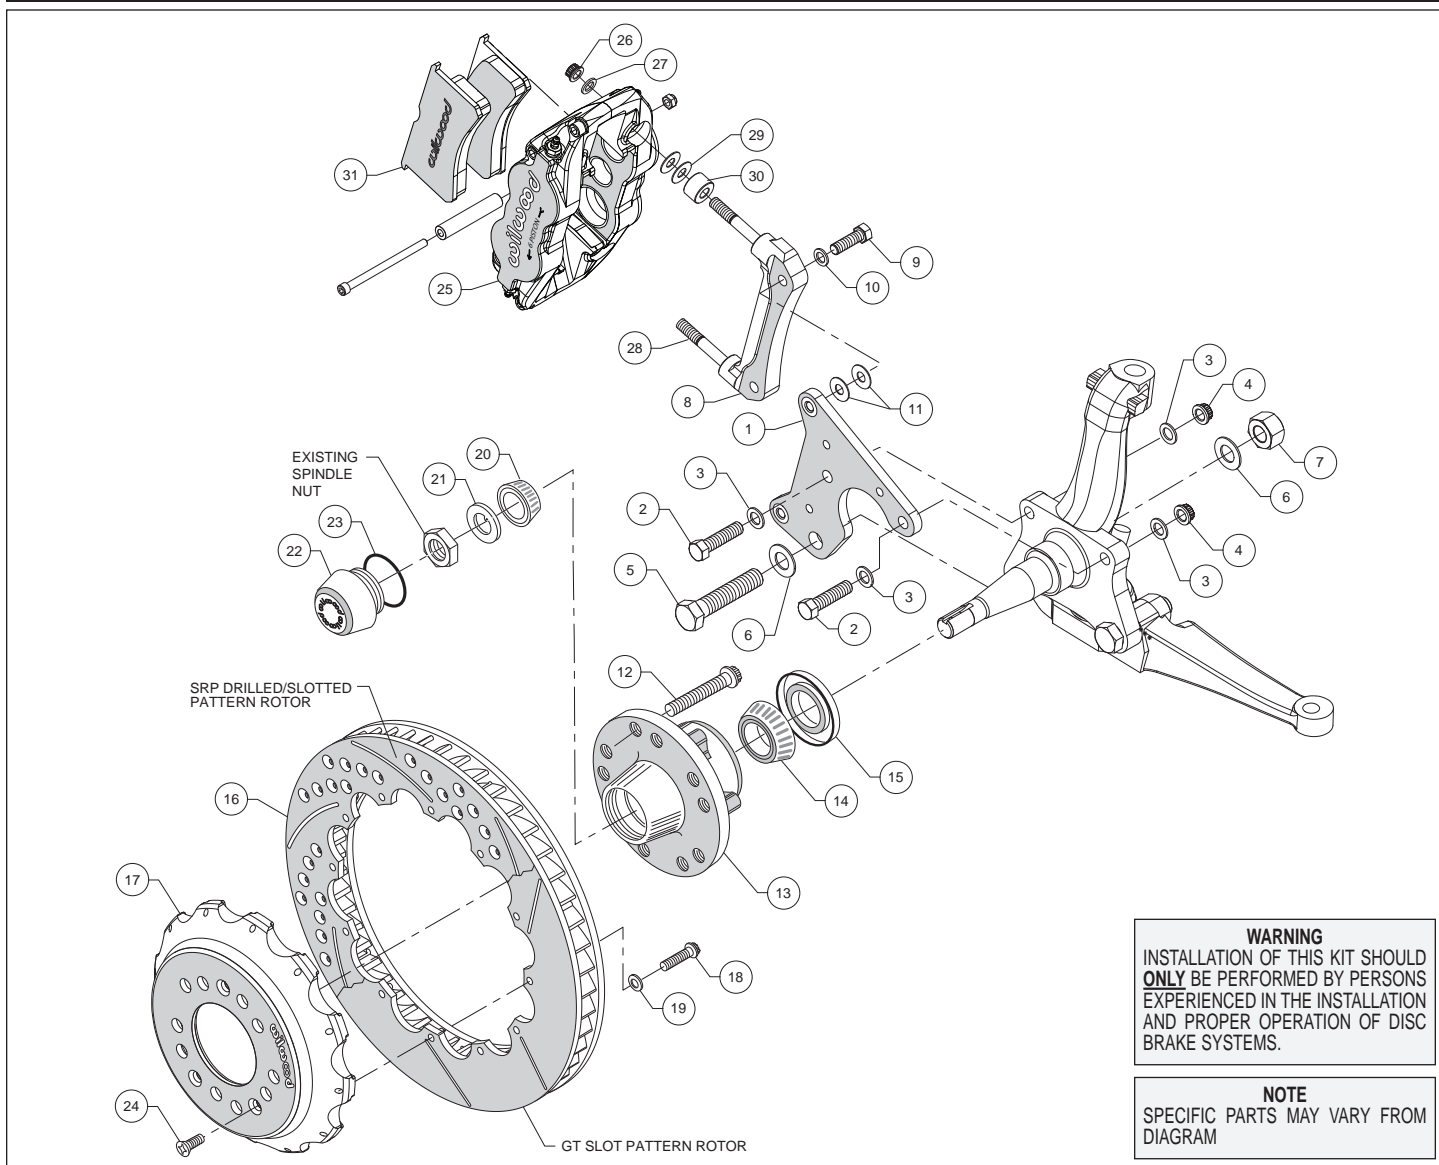
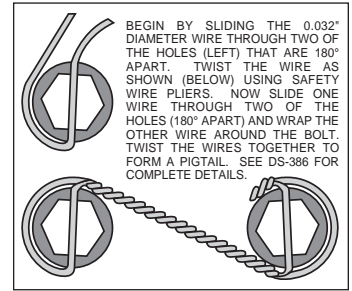

Figure 1. Typical Installation Configuration
Figure 3. Safety Wire Diagram
**Assembly Instructions** (numbers in parenthesis refer to the parts list and Figure 1 on the preceding pages): **CAUTION:** All mounting bolts must fully engage clinch nuts. Be sure to check that all bolts are protruding through flanged side of clinch nut after shimming.
- Orient the spindle bracket (1) as shown in Figure 1 and Photo 1, and install using bolts (2), washers (3), and nuts (4) on the top holes and bolt (5), washers (6), and nut (7) on the bottom hole, Figure 1 and Photo 1. Temporarily tighten the mounting bolts. Ensure that the flanged heads of the clinch nuts in the bracket are facing outboard, Photo 1. **NOTE:** The bracket must fit squarely against the mounting points on the spindle. Inspect for interference from casting irregularities, machining ridges, burrs, etc. Remove nuts one at a time, apply red *Loctite*® 271 to bolt threads and torque nuts (4) to 47 ft-lbs. and nut (7) to 140 ft-lbs.
- The caliper mount radial bracket (8) should initially be installed with clean, dry threads on the mounting bolts. Orient the bracket as shown in Figure 1, and Photo 2. Install onto the spindle bracket using bolts (9), and washers (10). Initially place two .035 thick shims (11) on each bolt between the radial and spindle brackets, Figure 1. Temporarily tighten the mounting bolts. Later, after the caliper alignment has been checked, the mount bolts will be secured using red *Loctite*® 271.
- Install wheel studs (12) into the hub (13), Photo 3. Torque to 77 ft-lb. **NOTE:** There are two five lug patterns in the hub (5 x 4.50 and 5 x 4.75). Ensure the correct hub stud pattern is being used to fit the wheel application.
- Pack the large inner bearing cone (14) with high temperature disc brake bearing grease (available from your local auto parts store) and install into the backside of the hub (13), Photo 4.
- Install the grease seal (15) by pressing into the backside of the hub (13), flush with the end of the hub, Photo 4.
- Orient the rotor (16) and the hat (17) as shown in Figure 1 and Photo 5. Attach rotor to hat using bolts (18) and washers (19). Using an alternating sequence, apply red *Loctite*® 271 to the threads, and torque to 155 in-lbs. For an added measure of security, the bolts may be safety wired using standard 0.032 inch diameter stainless steel safety wire as shown in Figure 3. Refer to Wilwood's data sheet DS-386 for complete safety wire installation instructions.
- NOTE:** This kit contains distinct right and left hand calipers that must be mounted in a specific direction, as described below. Lubricate the caliper mounting studs (28) with lightweight oil. Initially place one spacer (30), and two .035" thick shims (29) on each stud between the caliper and the bracket, as shown in Figure 1 and Photo 8. Mount the caliper (25) onto the bracket (8) using lock nuts (26) and washers (27), Figure 1. Ensure that the caliper is mounted so the largest pistons are at the rotor exit end of the caliper, in relation to the direction of rotor rotation. Temporarily tighten the lock nuts and view the rotor through the top opening of the caliper. The rotor should be centered in the caliper, Photo 9. If not, adjust by adding or subtracting shims (11) between the spindle bracket (1) and the caliper mount bracket (8). Always use the same amount of shims on each of the two mounting bolts. Once the caliper alignment is correct, remove the radial bracket mounting bolts one at a time, apply red Loctite® 271 to the threads, and torque to 40 ft-lb. **NOTE:** The end of the bolts must be flush with, or protruding through, the head of the clinch nut.